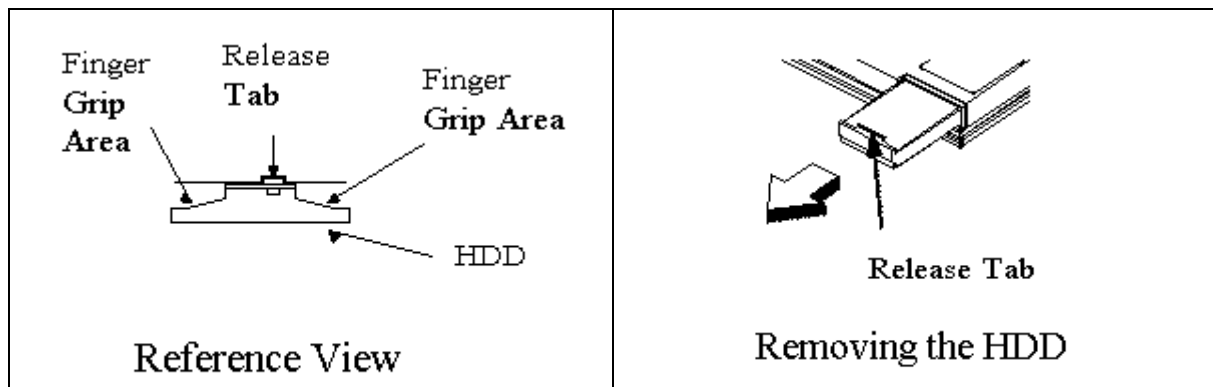

Figure 6-5 Removing/Replacing the Hard Disk Drive Module
5. While lifting upward on the HDD release tab ( using your fingernails), use both finger grip areas (Figure 6-5) and pull the HDD module out of the notebook.